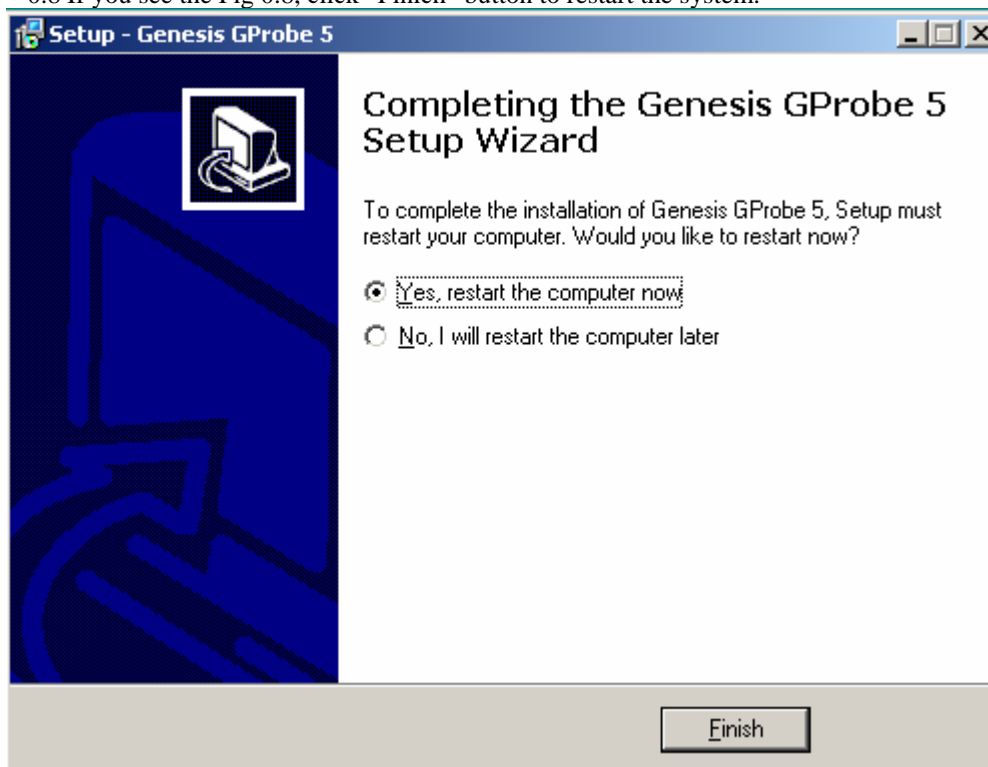

Fig. 0.8
0.8 If you see the Fig 0.8, click “Finish” button to restart the system.